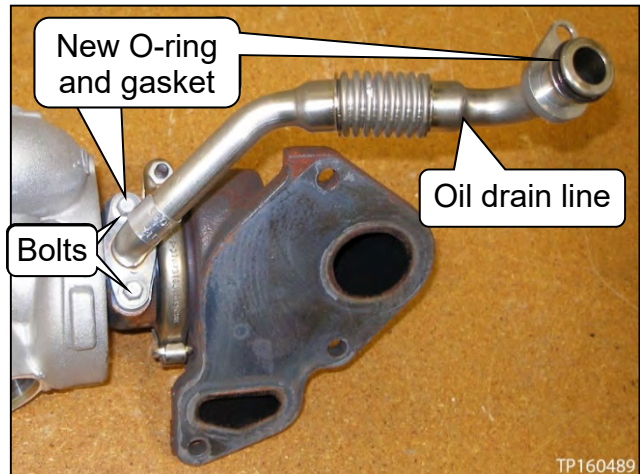

Figure 61
2. Install the oil drain line (see Figure 61).